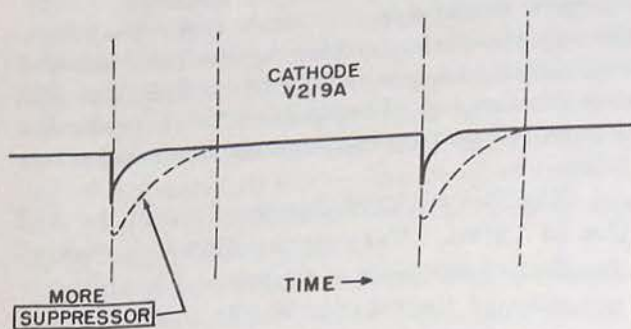

Figure 55. Stc generator, wave forms.
The rapid charging of this capacitor produces the sharp, initial negative downswing of the pulse developed across R227 (fig. 55).
c. The SUPPRESSOR control varies the grid bias of V219A. Varying the grid bias changes the effective resistance of the tube. Changing the resistance of the tube varies the discharge time constant of capacitor C221. By varying the discharge time constant, the SUPPRESSOR controls the length of the pulse developed across R227 (fig. 55).